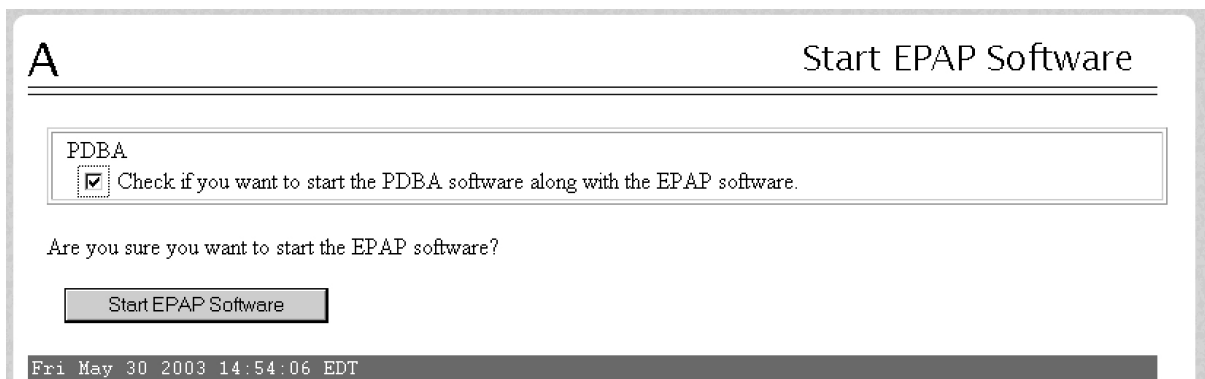

Figure 57: Start EPAP Software
7. From the **Start EPAP Software** screen, make sure the checkboxes are checked as shown in Figure 57: Start EPAP Software (this item applies only if performing this procedure on Side A):